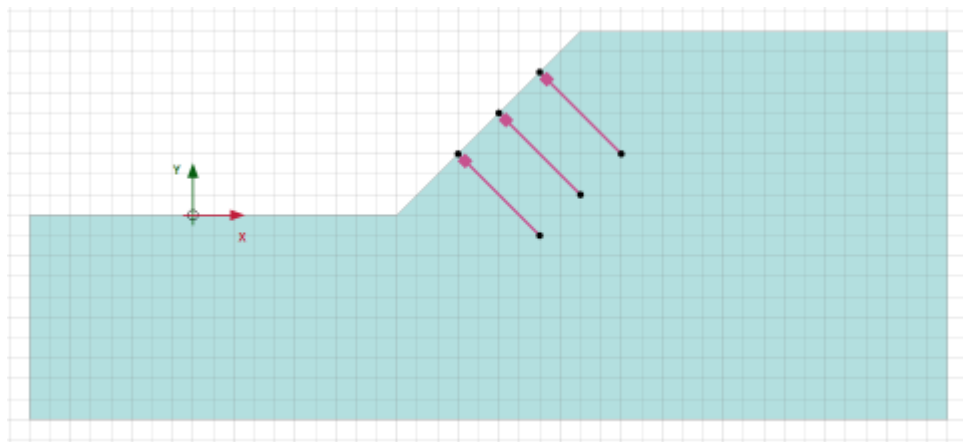

Figure 9: Final geometry of the model
- 3 rows rockbolt will be created in total (Figure 9)